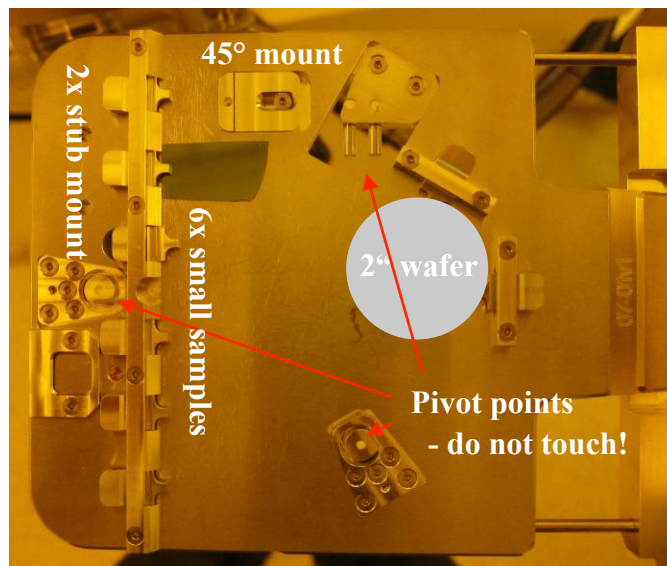

Figure 2: Sample holder for small samples and 2 " wafers.
- 3) Never touch the pivot points (see Figure 2). They are calibrated so that the sample holder will fall into the same position inside the chamber every time to within a few micrometers.